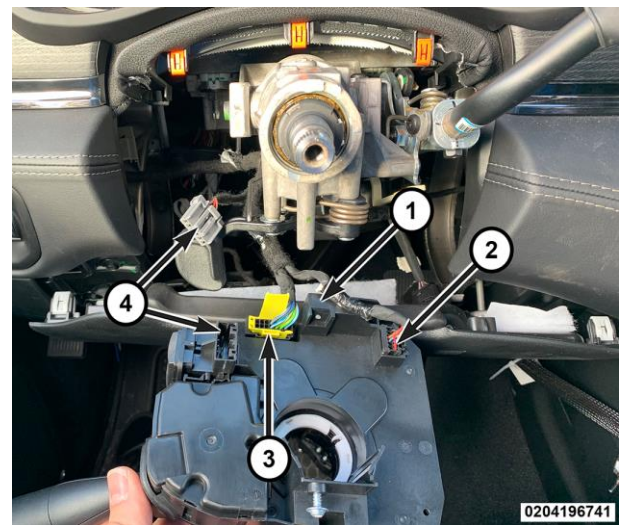

Figure 27 – SCCM
24. Pull the SCCM slightly away from the steering column and disconnect the pedal adjustment wire harness connector (4), if equipped (Figure 27).
26. Disengage the wire harness routing clip (1) (Figure 27).
27. Disconnect the wire harness connectors (2 & 3) (Figure 27).
1. Connect the wire harness connectors (2 & 3) (Figure 27).
2. Secure the wire harness routing clip (1) (Figure 27).